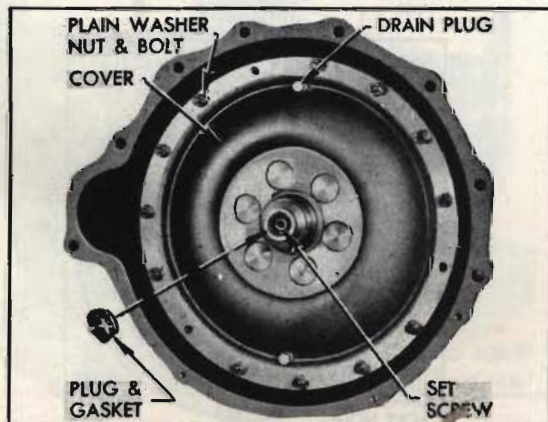

Fig. 22. Converter pump cover
2. Remove the hex plug and gasket from hub of converter pump cover (Fig. 22). Using a 5/16" socket, remove the set screw and lockwasher located in pump cover hub.